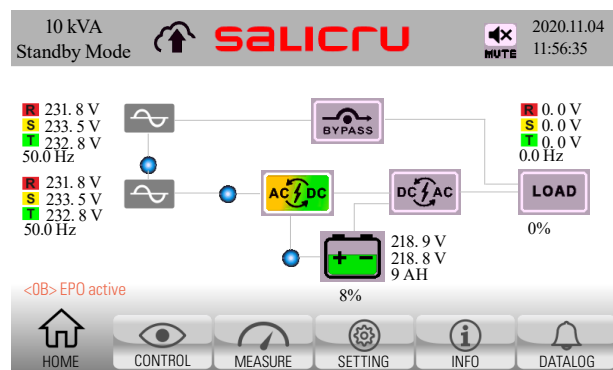

Fig. 60. Main screen with EPO emergency stop activated. There is no output voltage.
2. A new alarm, <0B> "EPO active", appears on the control panel, and the unit switches automatically to standby mode (Fig. 60).